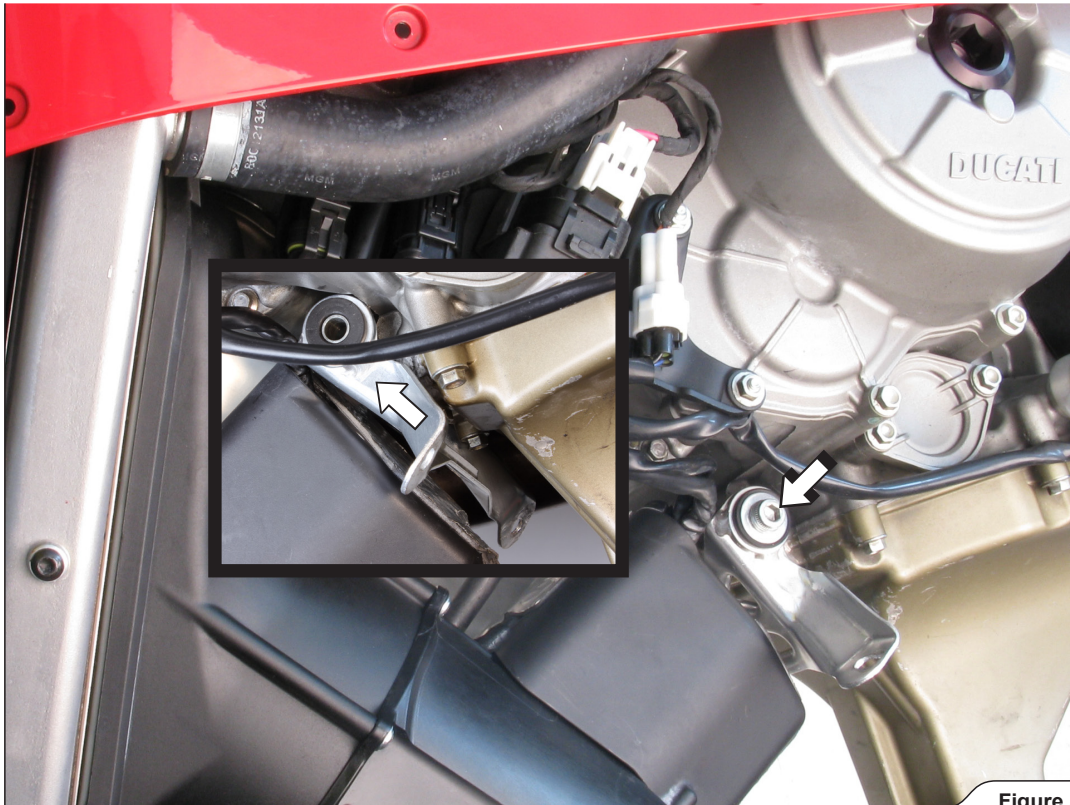

Figure 5
4. Unscrew the front stock muffler's bracket and move it out of the way - tuck it as shown (Figure 5).